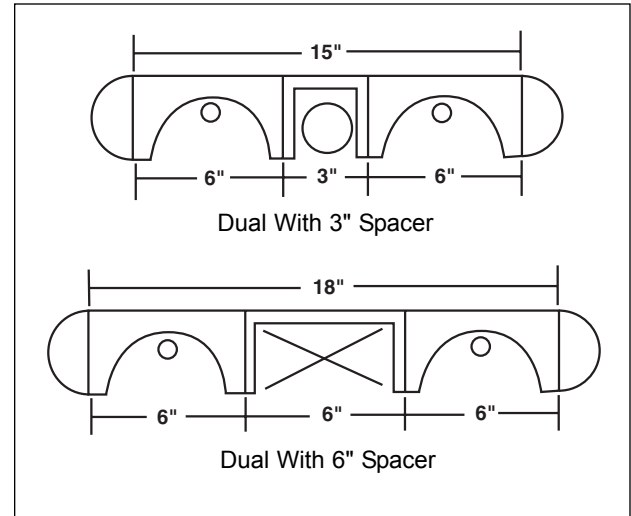

Figure 4. Assembling Dual Units
2. See Figure 4. Remove the extension cover from the tubular stand. It may be necessary to use a rubber mallet.
3. See Figure 4. Place the stand onto the unit with the exposed channel facing outward. Align mounting holes on tubular stand with mounting holes on bracket.